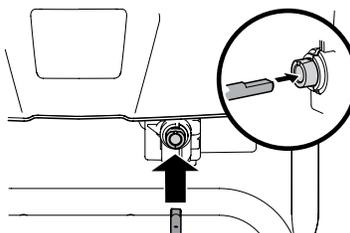

Figure 2-39
5. Insert other end of chute control rod into coupler below handle panel. Make sure to line up flat end of rod and flat end of coupler. You may need to rotate rod around until these two surfaces line up. See Figure 2-39 inset.